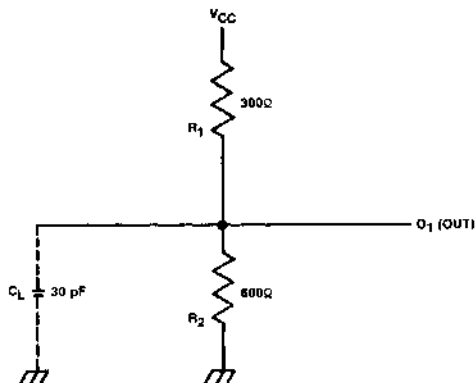

Figure 1
- ① Output Load: See Figure 1.
- ② Input Waveform: 0.0V for low level and 3.0V for high level, less than 10 ns for both rise and fall times.
- ③ Measurement References: 1.5V for both inputs and outputs.
- ④ C_L in Figure 1 includes jig and probe stray capacitances.